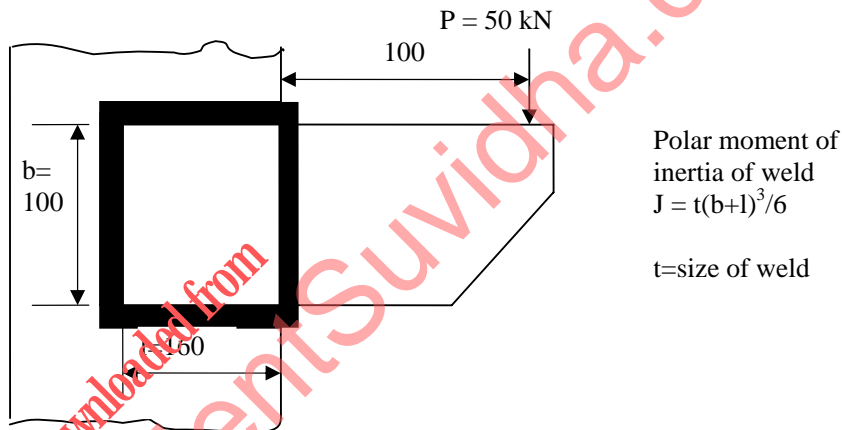

Fig. 3 : Q. 3 (b)
- (b)** A bracket is fillet welded to a structure as shown in Fig. 3, which is subjected to a load of 50 kN. Find the size of weld required if allowable shear stress is not to exceed 75 MPa. **07**